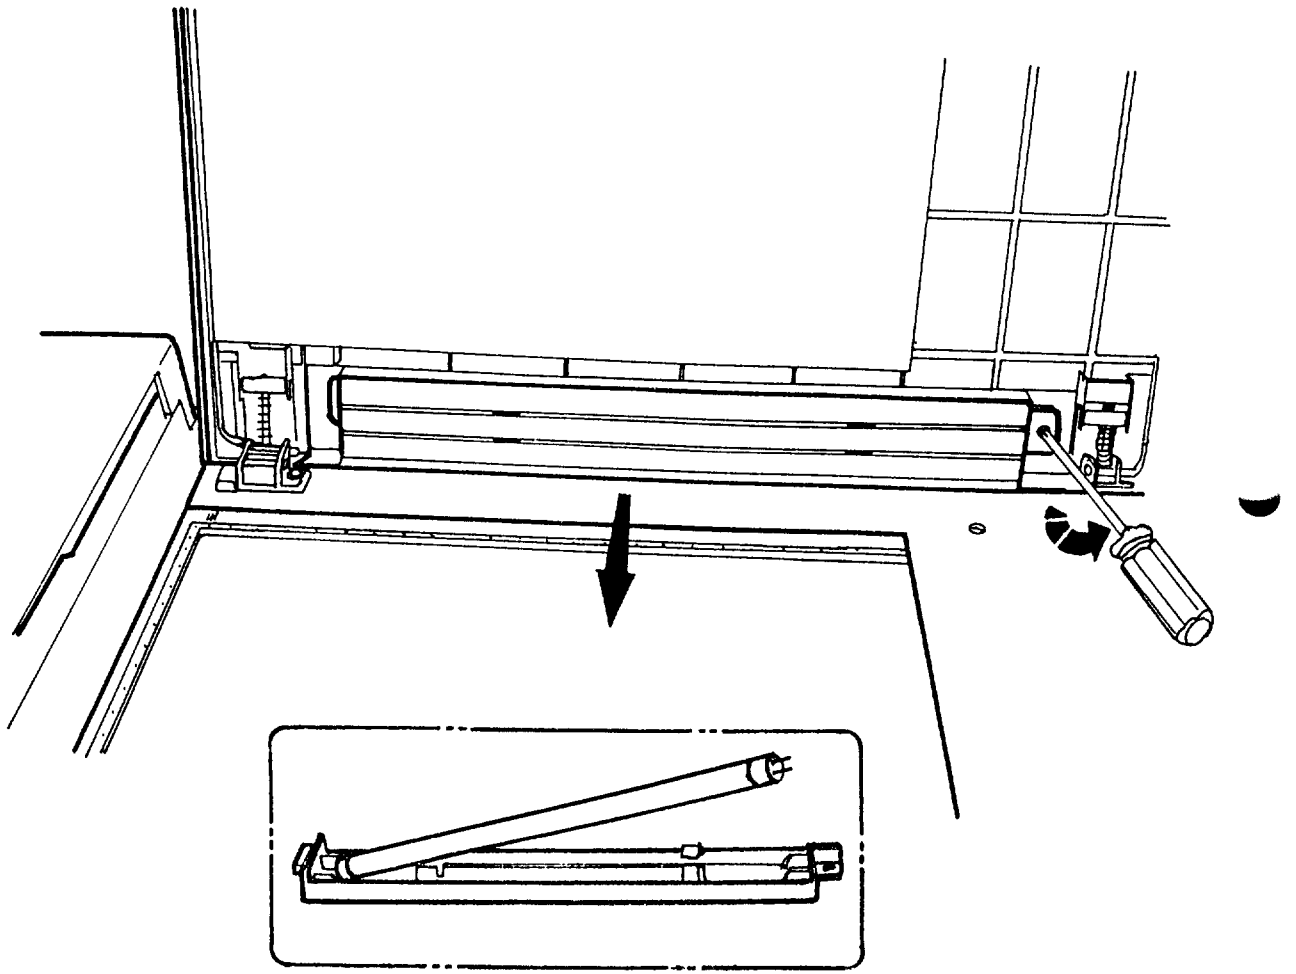

Figure 4.1 Replacement of the lamp unit:
5. Use screwdriver to remove the screw on the bottom right of the document cover. shown in Figure 4.1.